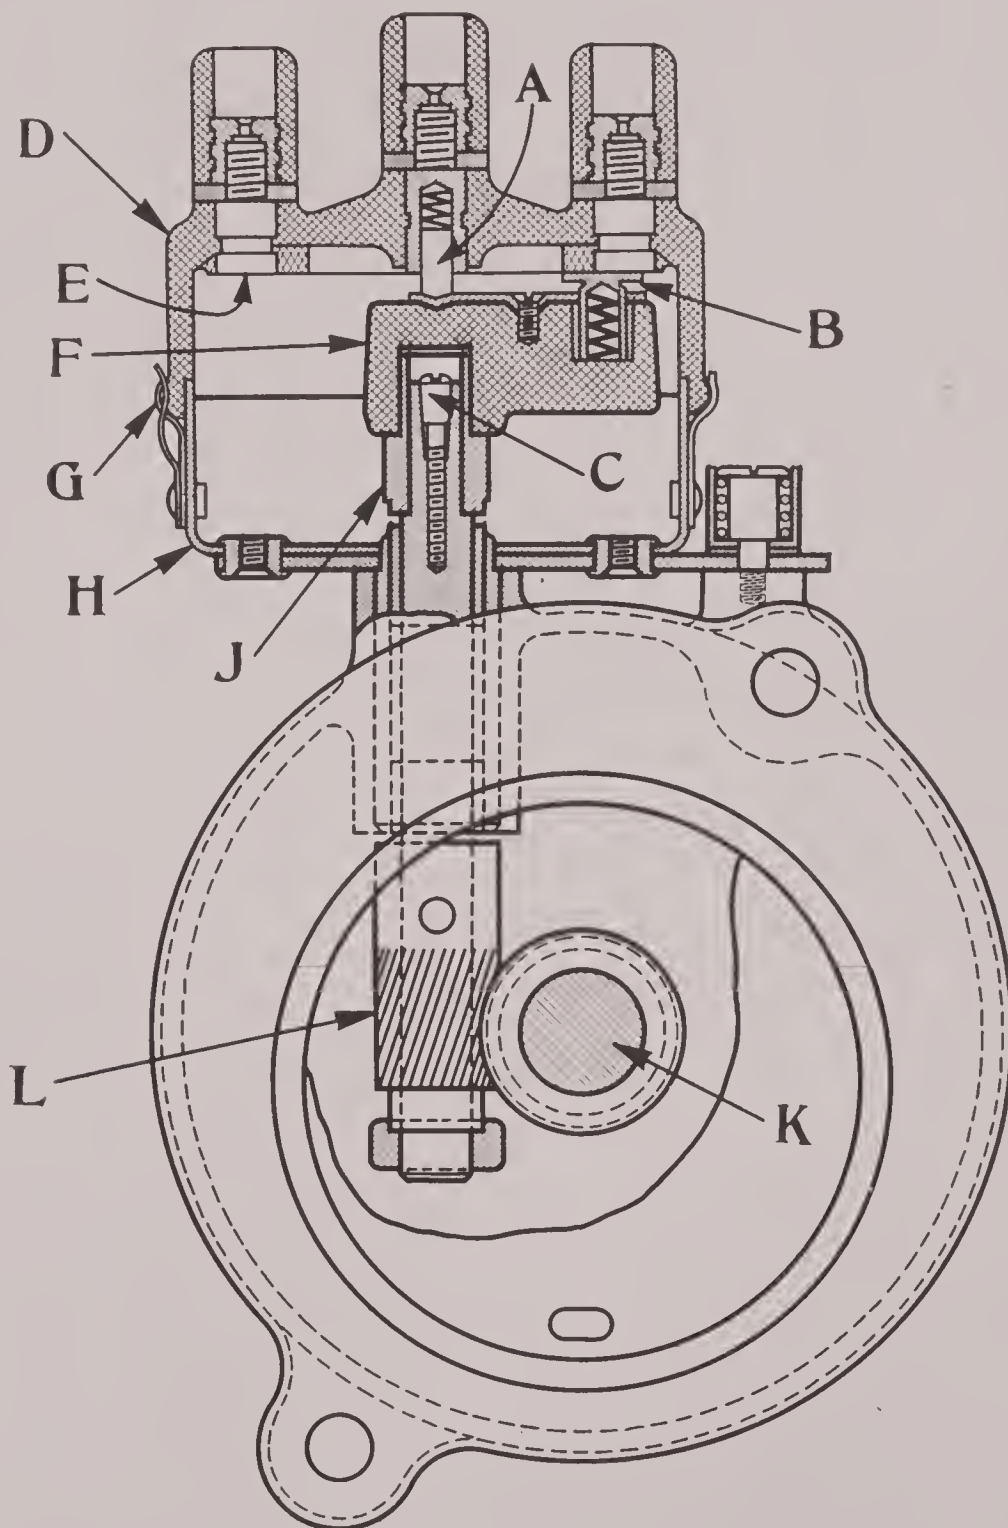
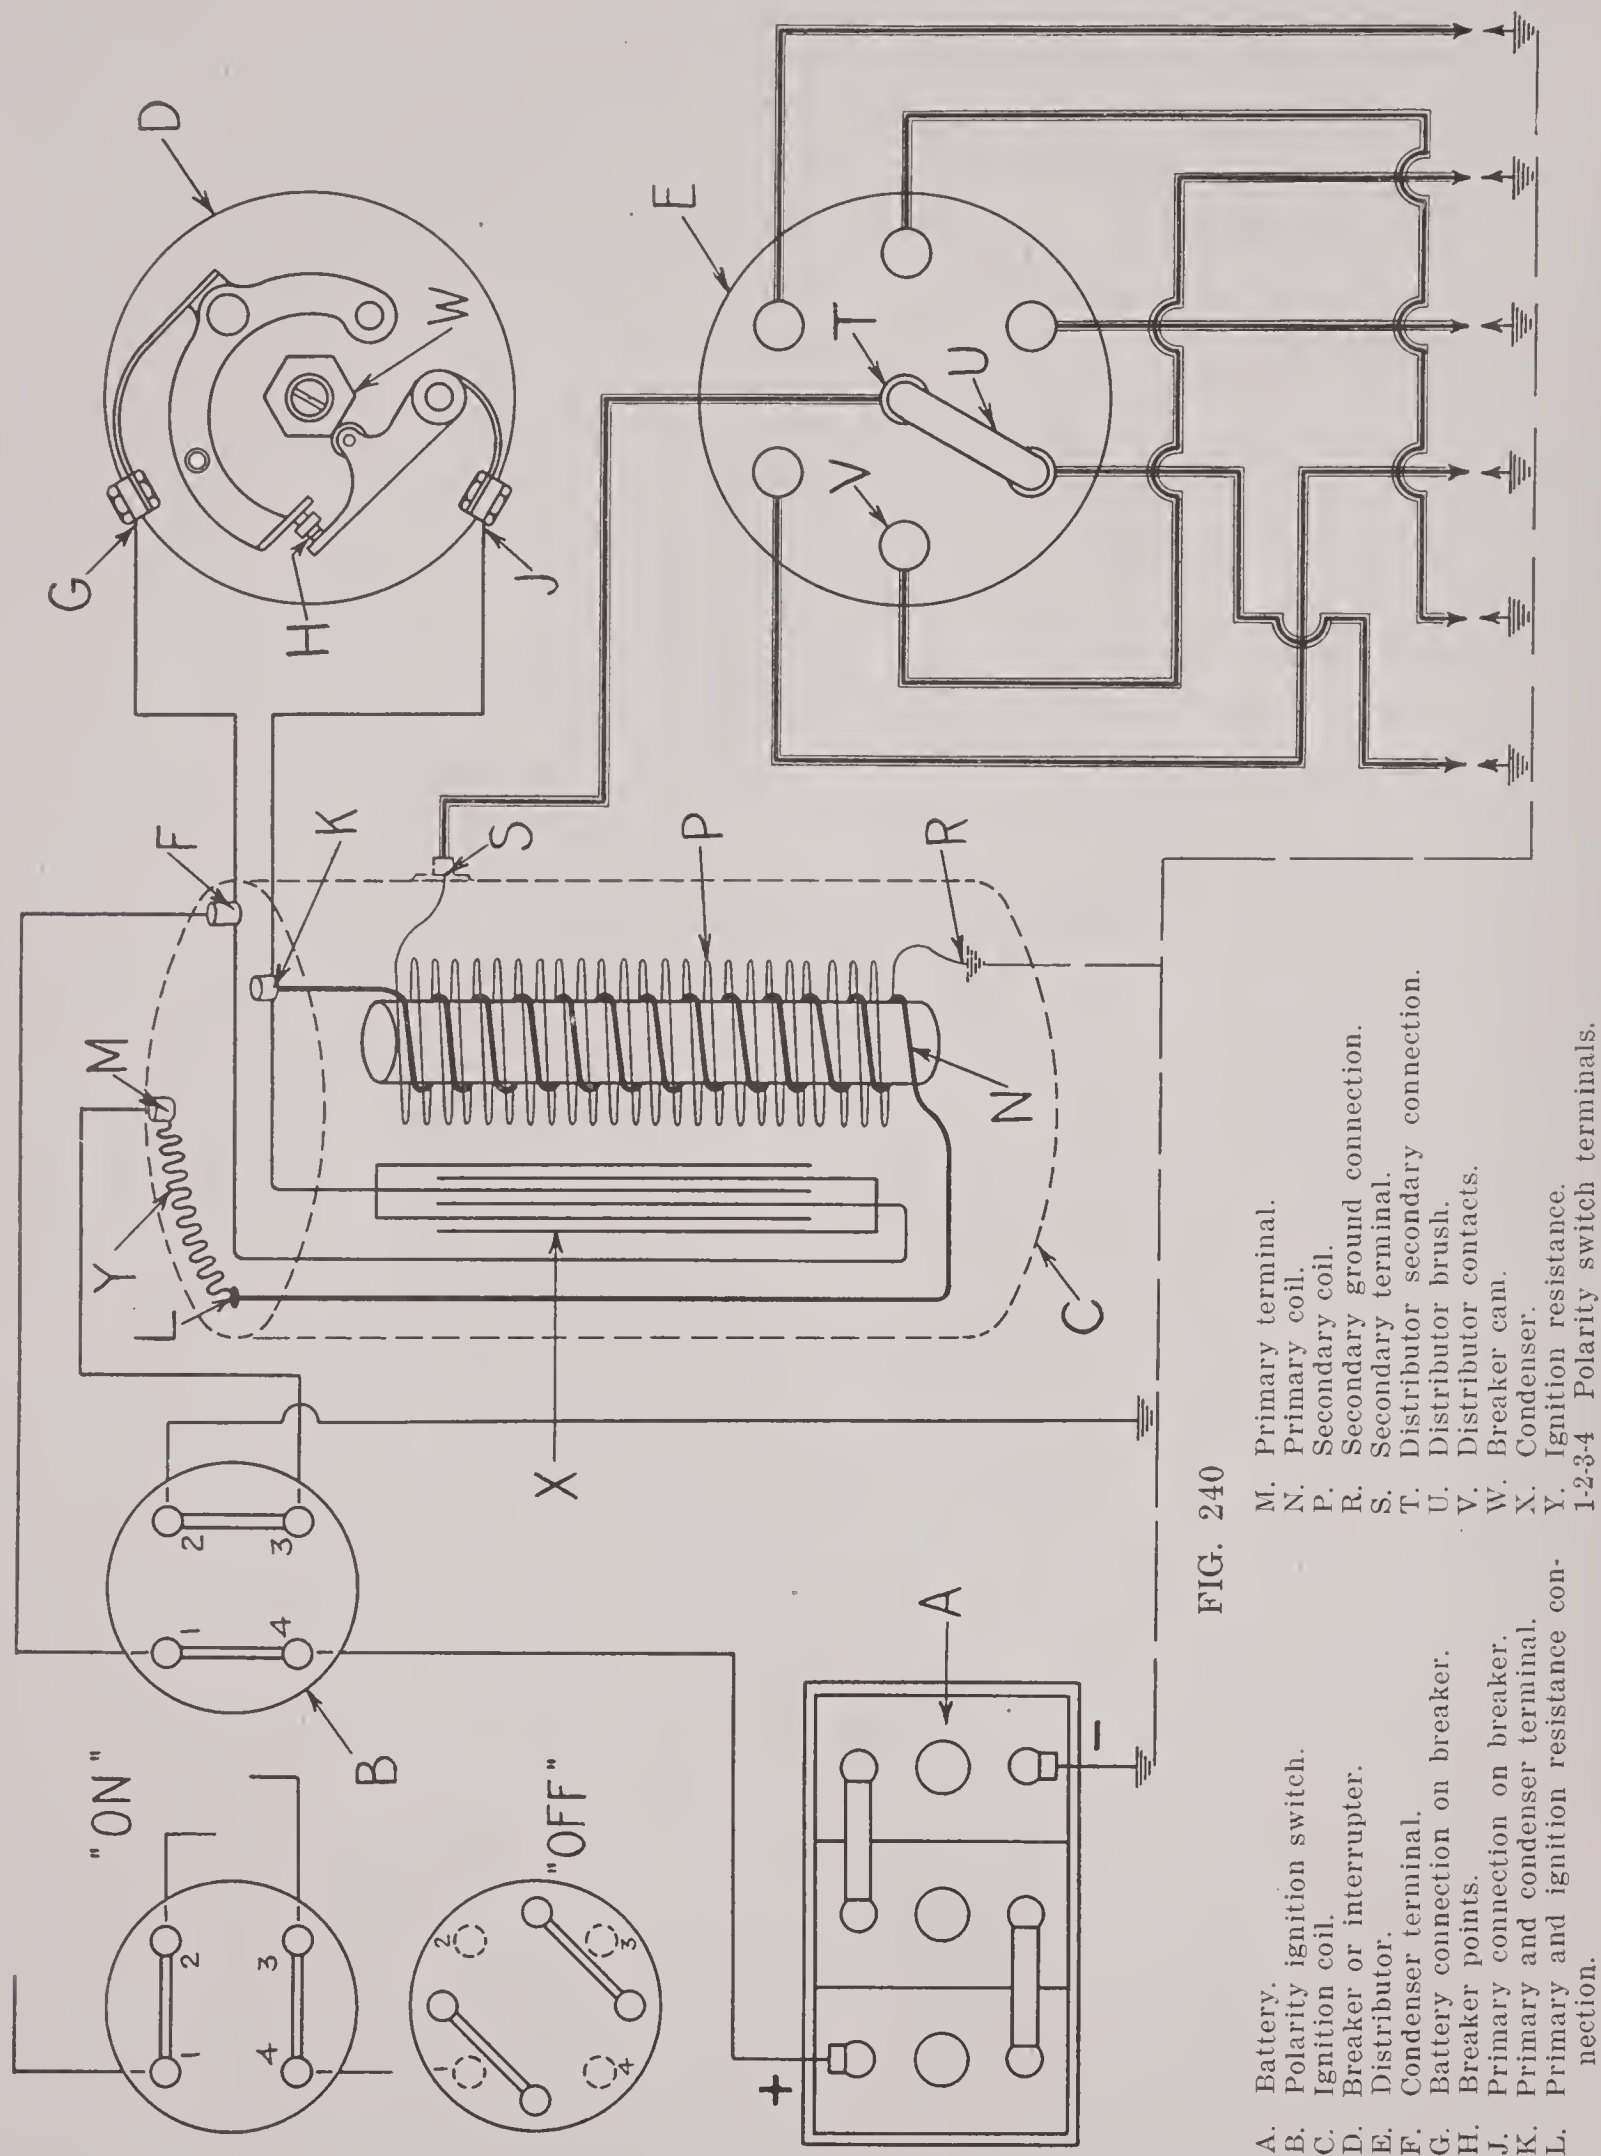

FIG. 239
FIG. 240
A. Distributor brush. Instead of contacts as in Fig. 239, pins are molded in distributor head. These pins project through the head and are so placed that the end of brush swings past without touching them, the gap between pin and brush being about .015".
(See Fig. 240)
The illustration in Fig. 239 shows a section through a distributor. The distributor brush (F) fits on the end of the cam so that it must turn with the cam. As many distributor contacts (E) as there are lobes on the cam are molded in the bakelite head. The arrangement of the distributor contacts is shown in Fig. 240. An extra, or odd contact, is carried in the center. The secondary of coil connects to this central contact and the spark plugs to the other contacts. With the distributor head and brush in position the small carbon brush (A) (Fig. 239) forming the center contact, rests on the small metal strip at the top of the brush. As the brush revolves with the shaft, the small metal contact button (B) slides over the distributor contacts molded in the head, connecting one after the other to the center contact, thus switching one of the plugs at a time in the circuit with secondary of coil. The brush so fits on the end of the cam that contact button (B) is on a distributor contact when breaker points separate. The distributor head (D) consists of a bakelite body in which distributor pins, or contacts (E), are molded. These pins are equally spaced about the inside of the distributor cap and are connected through secondary cables to the spark plugs.
The spark plugs are connected to the distributor contacts, or pins, according to the direction the distributor brush revolves and the firing order of the engine. For example (see Fig. 240), suppose the piston in number one cylinder of a six-cylinder engine is on top dead center at the end of compression stroke and the firing order of the engine is 1-5-3-6-2-4. Wire the contact on which the brush rests, to the plug in number one cylinder. Wire the next contact in the direction the brush revolves, to the plug in number 5 cylinder, the next, number 3 cylinder, the next, number 6 cylinder, the next, number 2 cylinder, and the last to the plug in number 4 cylinder.
Switch (A) Fig. 240 is so constructed that each time it is thrown to "ON" position, the current is passed through breaker points in opposite direction. This provision is made on some systems to prevent the breaker points from polarizing. When the current passes through the breaker points in one direction only, in time, an irregular pit forms in one and an irregular cone on the other. This is the result of the current carrying bits of metal from one point across and depositing it on the
The terminals of a coil constructed as shown in Fig. 240 can be determined with a test lamp. If the test points are placed on the condenser terminals (F) and (K), the lamp will not light and no spark will occur when the points are lifted. The condenser will be charged, however, and a spark will be produced if it is discharged by touching a short wire to these two terminals.
to give more time for current to build up in primary of coil at high speeds. Since with this construction the breaker remains closed longer at low speeds than at high speeds, a ballast resistance is necessary for the primary circuit as shown at (C) Fig. 240. This resistance is called the ignition resistance unit.
The illustration in Fig. 239 shows a section through one of the later types of Delco ignition-distributors. The distributor brush (rotor) makes a wiping contact on the distributor segments which are molded in the distributor head flush with the surface of the bakelite. The cam is locked on the shaft by a tapered screw that is threaded into the top of
C. Locknut for (A).
H. Breaker arm, grounded through spring (J) which rests against breaker housing and through the pin on which it is mounted.
J. Breaker spring which forces points together when lobe of cam is not under (D).
L. Tapered screw which locks cam on shaft. See (C) in Fig. 239. The cam can be loosened on the shaft for timing ignition by loosening this screw.